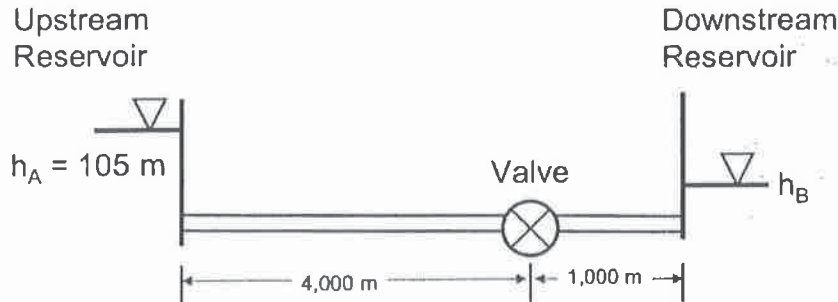

Figure 3. Water transmission system.
3. A transmission pipeline that conveys water from an upstream reservoir to a downstream reservoir is indicated in Figure 3. The transmission main has a valve along its length that controls the discharge in the system. The discharge through the valve is computed with the valve equation below. The pipeline has a length of 5,000 m, a Hazen-Williams 'C' factor of 110, and an inner diameter of 450 mm. The upstream reservoir has a water level of 105 m. The downstream reservoir has a water level of 70 m. The discharge in the system is 0.7 m³/s.